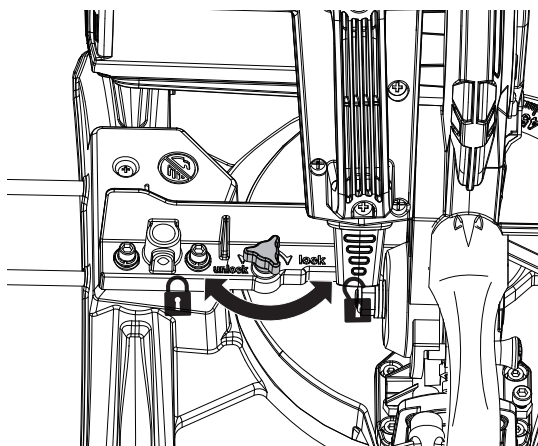

Figure 11
1. MITRE TABLE LOCK (SEE FIG. 11, 12)